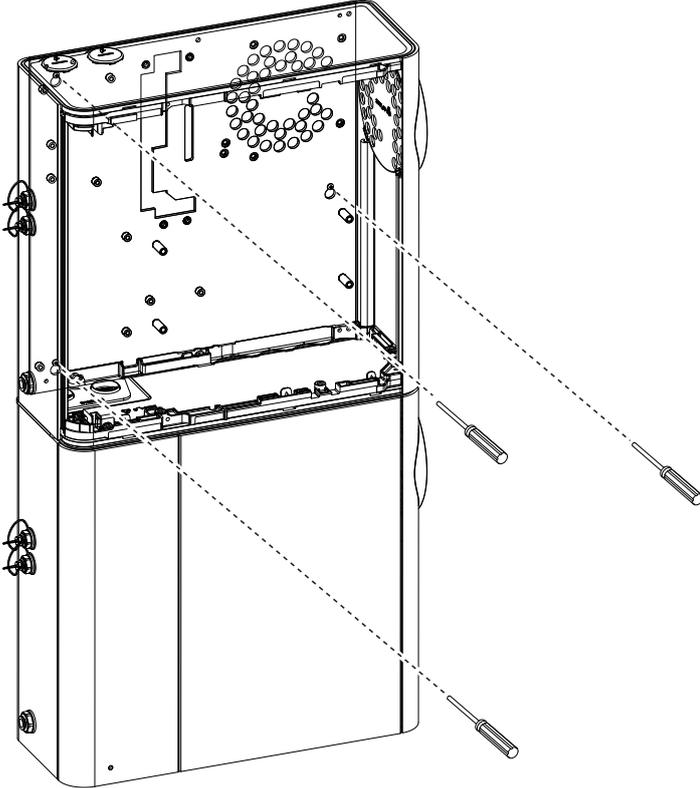

Figure A-14: Tighten Mounting Screws
6. Insert the third mounting screw and tighten all three (Figure A-14).